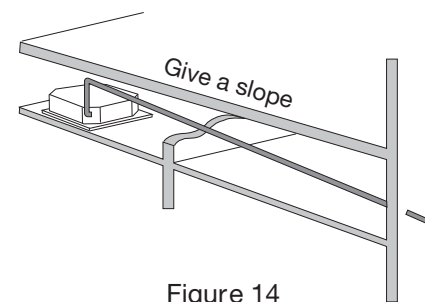

Figure 14
- To conveniently drain the system, the drain hose must slant downward, with a slope of at least 1 : 50 to prevent leakage as shown in figure 14.